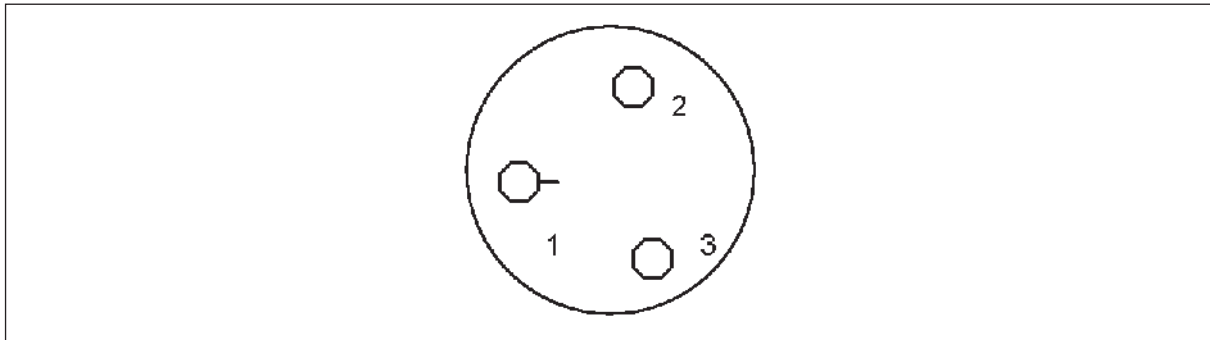

Fig. 6-5: Remote alarm socket - upright freezer
The configuration of the socket is shown in (Fig. 6-5 on p. 33), as viewed from the rear of the freezer. Within the freezer, the socket is connected to voltage-free contacts rated at 24 volts, 1 amp. In normal operation, with the mains/power on, pin 1 is connected to pin 2, and in the alarm condition, with mains/power off, pin 1 is connected to pin 3.
4. This can be verified by connecting an appropriately rated continuity testing device across the contacts as described in the alarm socket diagram (Fig. 6-5 on p. 33).